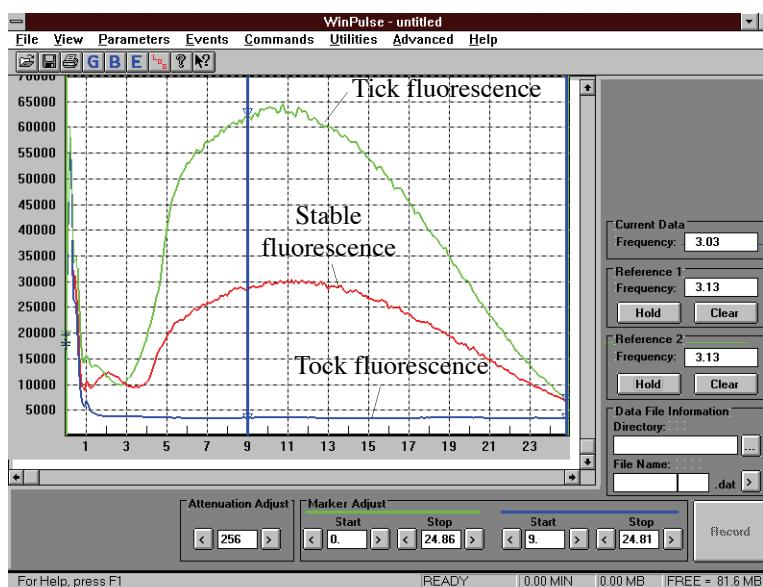

Figure 5.2. Tick-tock mode and stable fluorescence
11. For a 2-mm combustor, the sulfur emission should extend all the way to 24 msec (as shown in Figure 5.2) For a 3-mm combustor the emission may be shorter, extending only to 20 msec. For either combustor, H₂:Air 1 ration should be adjusted so that the sulfur emission extends as far as possible.
13. When the optimal gas setting is attained, verify the PFPD is close to tick-tock mode by closing the fine adjust needle valve (clockwise) until the PFPD just goes into tick-tock mode (Figure 5.2). In tick-tock mode, only every second flame propagates through the combustor. In WinPulse, observe a sulfur emission only every second pulse. Chromatograms obtained during tick-tock mode contain significantly higher noise. Therefore, once tick-tock mode is obtained, open the fine adjust needle valve until tick-tock stops. Open an additional 1/2–1 full turn.
6. When the optimal gas setting is attained, verify the PFPD is close to tick-tock mode by closing the fine adjust needle valve (clockwise) until the PFPD just goes into tick-tock mode (Figure 5.2). Open the fine adjust needle valve until tick-tock stops, then open an additional 1/2–1 full turn.